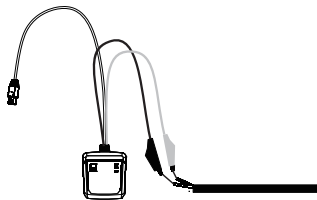

Figure 5. Continuity test
9.Continuity test (see Figure 5)